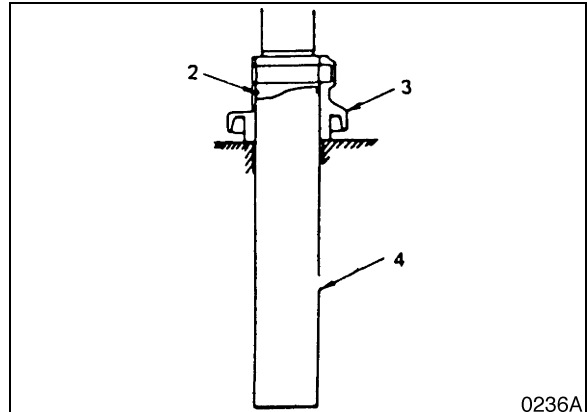

Figure 33
1. Degrease, clean and dry all parts before reassembly. Insert bushing (7, Figure 33) into roller.
2. Apply grease to the O-rings (2, Figure 33) and insert into axle.